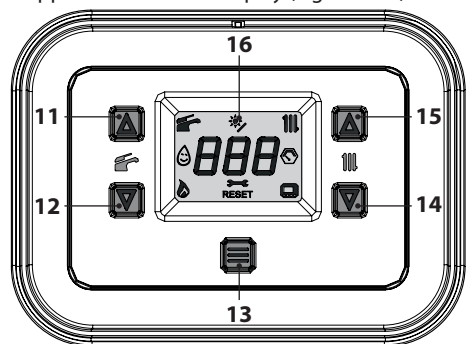
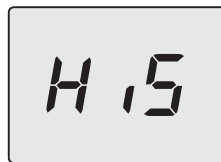
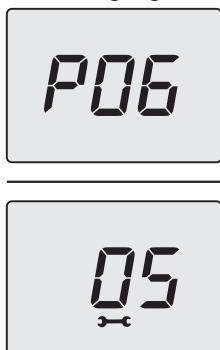
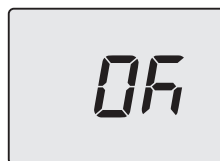

Figure 5.29
Figure 5.30
Figure 5.34
Figure 5.36
- Enter "programming mode" by pressing the 12 and 14 (Figure 5.29) until **HiS** (Boiler History) appears on the LCD display (Figure 5.30).
- press the 12 and 14 keys simultaneously for 5 seconds (Figure 5.29) (return to previous level).
- Press the 13 button for 1 second (Figure 5.29) to open the selected parameter. The display will show the following (Figure 5.34):
- Press button 13 (Figure 5.29) to confirm the value entered. The display will show the following (Figure 5.36) for 5 seconds, then move up to the next level.
- Press the keys 12 and 14 simultaneously (Figure 5.29) to exit the level without changing the value (return to the previous level).